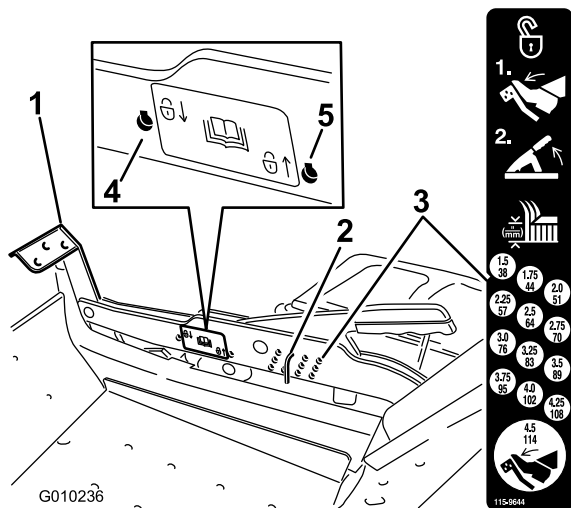

Figure 28
1. Push on the deck lift pedal with your foot and raise the mower deck to the transport position (also the 4-1/2 inch (114 mm) cutting height position) (Figure 28).
2. To adjust, remove the pin from the height-of-cut bracket (Figure 28).
3. Select a hole in the height-of-cut system corresponding to the height-of-cut desired and, insert the pin (Figure 28).
1. Push on the deck lift pedal with your foot and raise the mower deck to the transport position (also the 4.5 inch (114 mm) cutting height position) (Figure 28).
2. Remove the pin from the height-of-cut bracket (Figure 28).
3. Select the lower hole on the lock decal and insert the pin (Figure 28).
4. Select the upper hole on the lock decal and insert the pin (Figure 28).